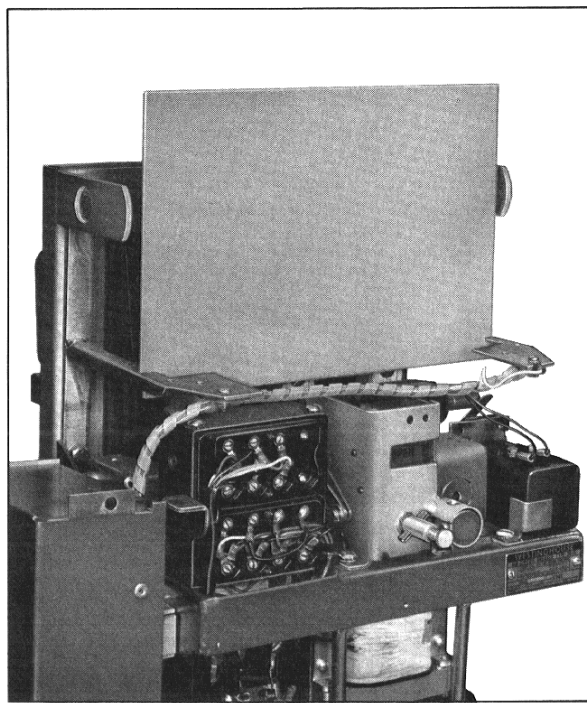

Fig. 18 Mounting of Barrier DB-15
- Once the brackets are secured the plastic barrier is mounted between them, this barrier acts as a shield between the Amptector and the front of the breaker arc chute, see Fig. 18.
7. Remove the finger clusters from the top two outside studs, and from the middle bottom stud. Place the sensors on the top studs with the terminals of the sensors in the upright position (Fig. 18) and the bottom sensor terminal in the downward position. The lower end of the harness is slit into two groups for attaching to the sensors. The wires to the top sensors are brought upward along the frame while the portion to the lower sensor is brought down between the phases. Attach the wire ends to the sensors making positive that the polarities are correct.